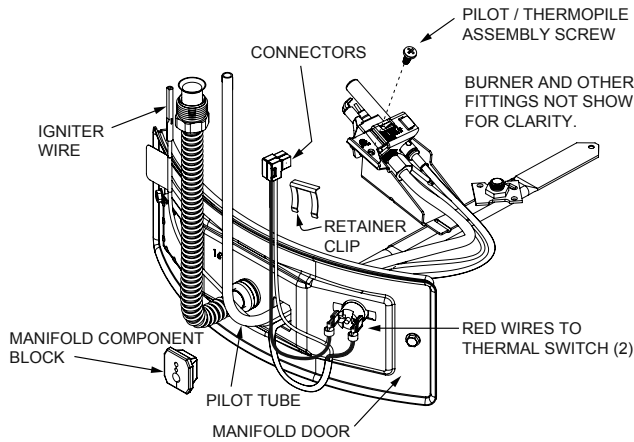

FIGURE 36.
4. Lift the retainer clip straight up from the back of the manifold component block (using a flat-blade screwdriver), then remove the manifold component block from the manifold door (Figure 36). **IMPORTANT:** Be careful not to bend or alter the position of the pilot tube, it will be used
7. Route the new pilot tube and wires through the opening in the manifold door. See Figure 36.